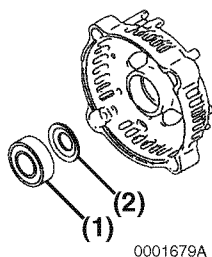

Figure 11-11
13. If necessary to replace the bearing (Figure 11-11, (1)) in the rear frame housing, use a puller to remove. Discard the bearing and thrust washer (Figure 11-11, (2)).